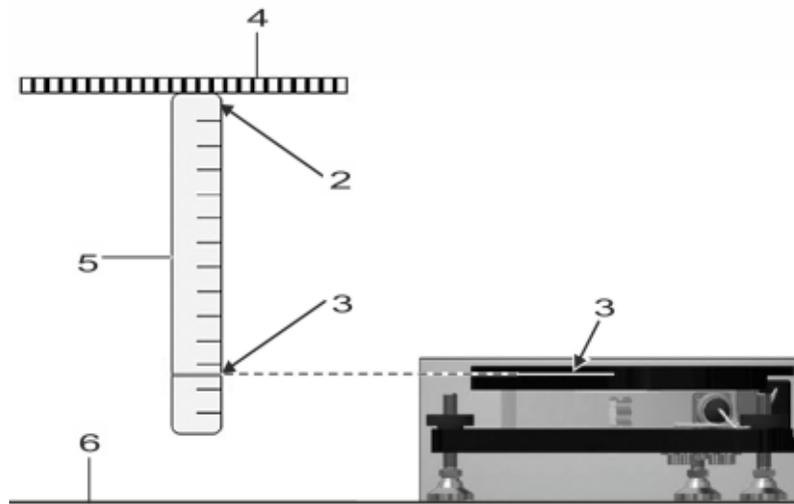

Figure 74
- ⇒ **Figure 74 -2-** – Defined measuring point on the vehicle floor
- ⇒ **Figure 74 -3-** – Laser beam
- ⇒ **Figure 74 -4-** – Vehicle floor
- ⇒ **Figure 74 -5-** – Steel ruler